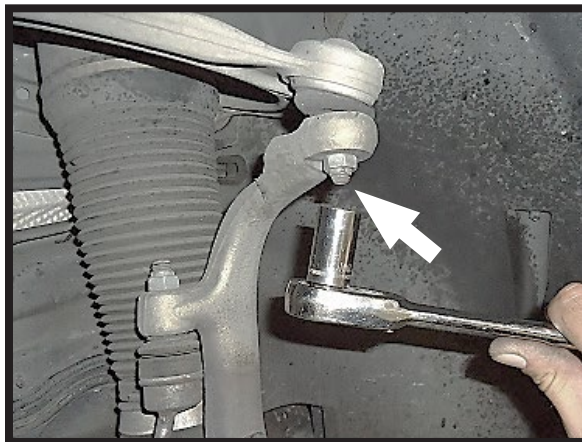

FIGURE 10-14
8. LOOSEN UPPER CONTROL ARM NUT. (FIGURE 10-14)